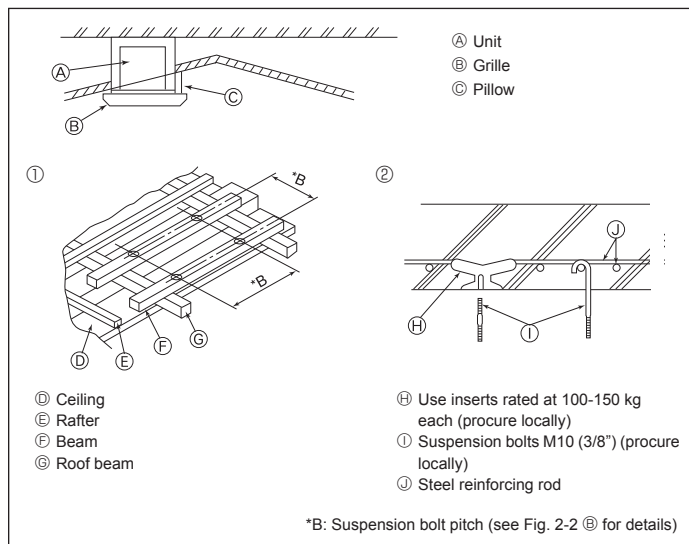
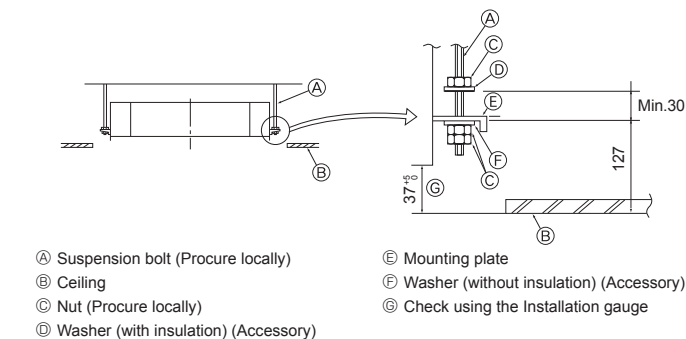

Fig. 2-4
Fig. 2-5
2.4. Suspension structure (Give site of suspension strong structure) (Fig. 2-4)
① Wooden structures
② Ferro-concrete structures
2.5. Unit suspension procedures (Fig. 2-5)